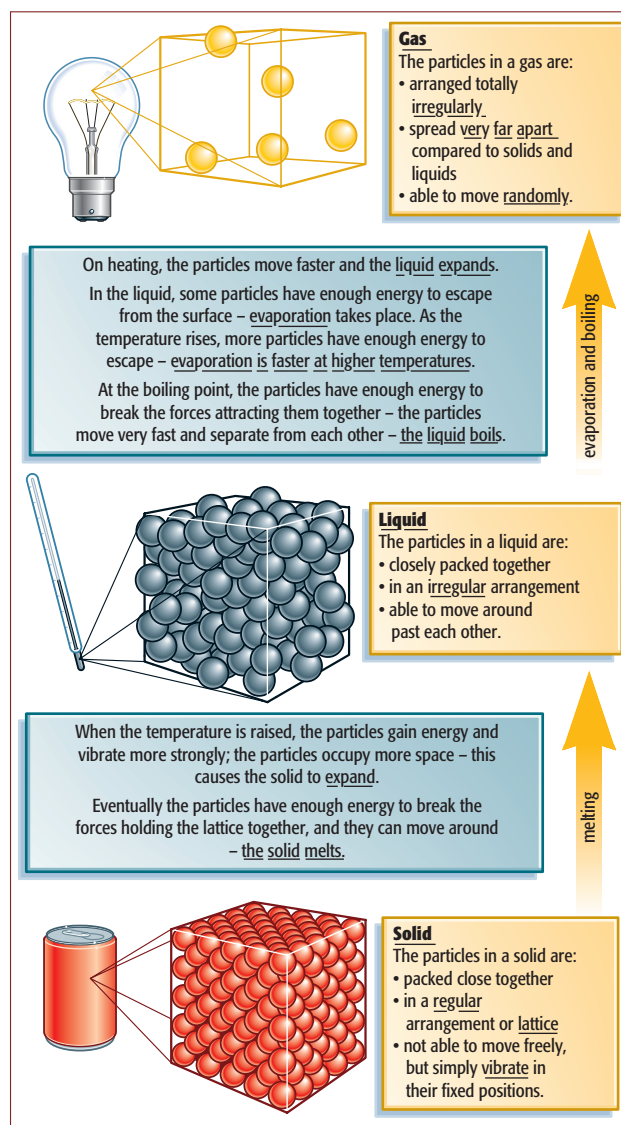

Figure 2.23 Applying the kinetic theory to changes in physical state.
- ◆ The freedom of movement and the arrangement of the particles is different for the three states of matter (Figure 2.23).
Figure 2.23 is a summary of the organisation of the particles in the three states of matter, and helps to explain their different overall physical properties. The highly structured, ordered microscopic arrangements (**lattices**) in solids can produce the regular crystal structures seen in this state. The ability of the particles to move in the liquid and gas phases